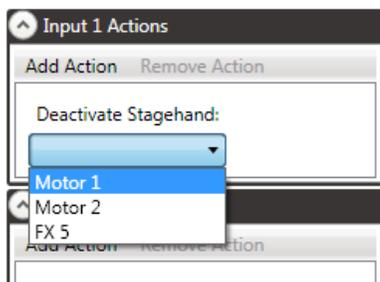

Figure 187
4. From the **Deactivate Stagehand** drop down menu, select the FX or Motor that should be deactivated when the FX Input is closed (Figure 187).